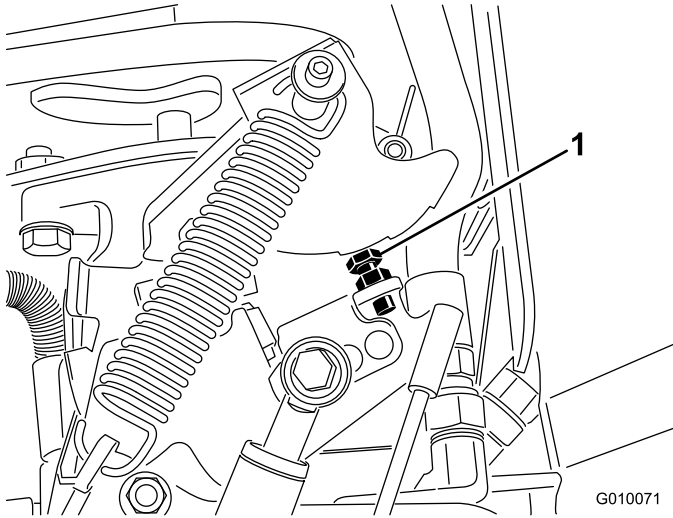

Figure 67
5. If an adjustment is needed, turn the pump stop bolt (Figure 67) closer to the stop plate to decrease hole spacing or turn the stop bolt away from the stop plate to increase hole spacing.